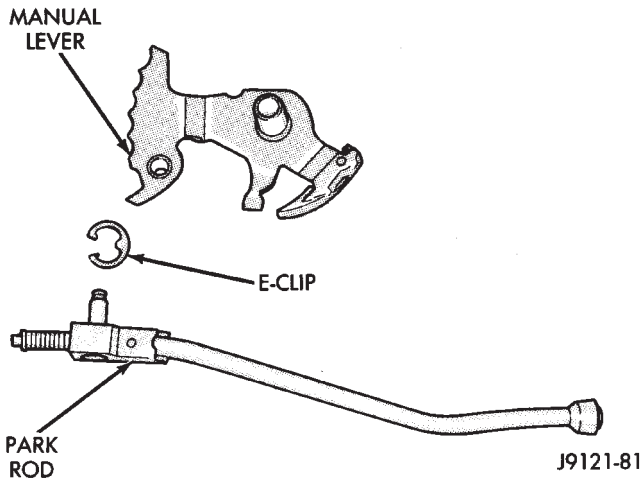

Fig. 105 Park Rod Removal
- (8) Remove park rod E-clip and separate rod from manual lever (Fig. 105).